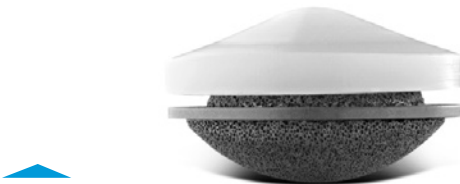

Fig. 49
- If inadequate bone remains, trim the surface and either leave the inadequate bone or consider use of an augmentation patella (Fig. 49).